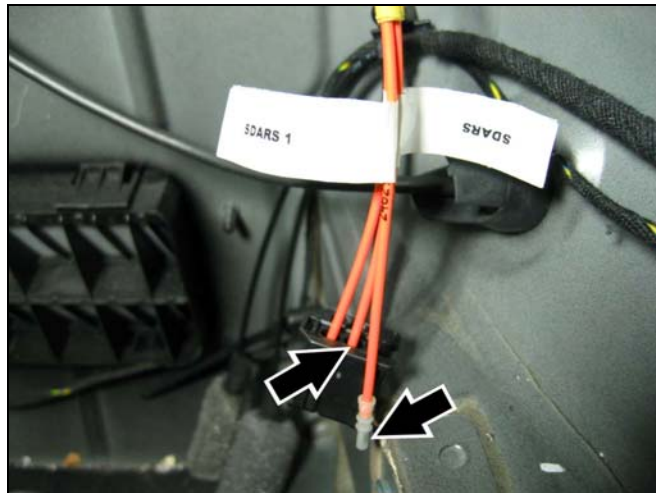

Figure 10
2. At the SDAR control module (Figure 10) in the right well of the trunk, configure the MOST ring according to Figure 39 (see below).